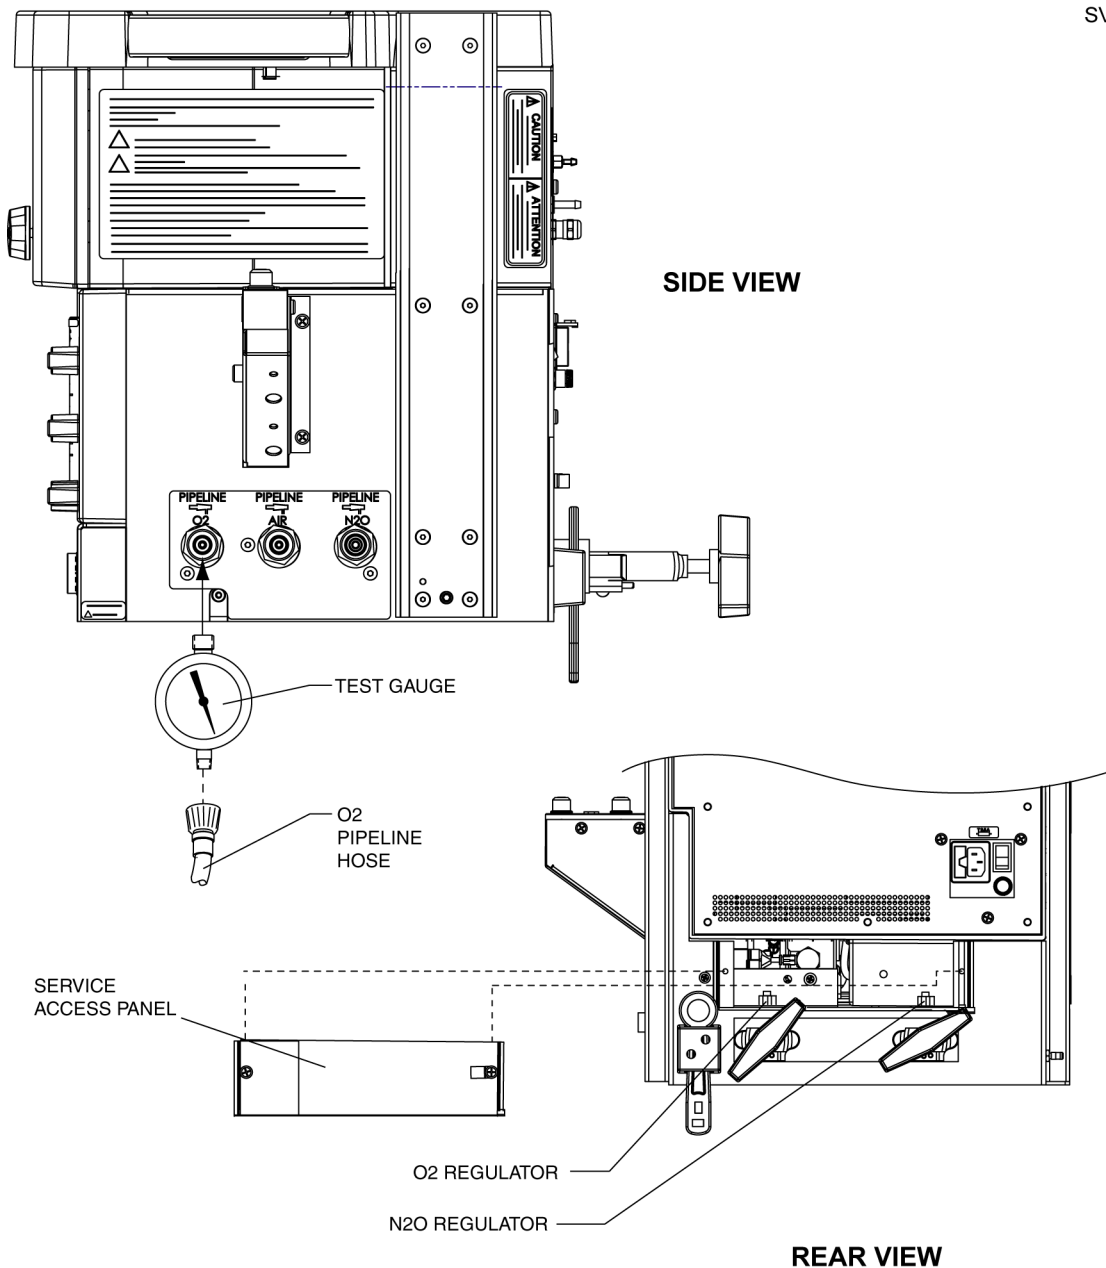

Figure 1 Cylinder Pressure Regulator Adjustment: O2 Connection Illustrated
Figure 1 shows test connections for the O2 regulator adjustment. If you are adjusting the N2O regulator, connect the test gauge in series with the N2O pipeline hose.
7. Remove the Service Access Panel at the rear of the unit. Refer to Figure 1.